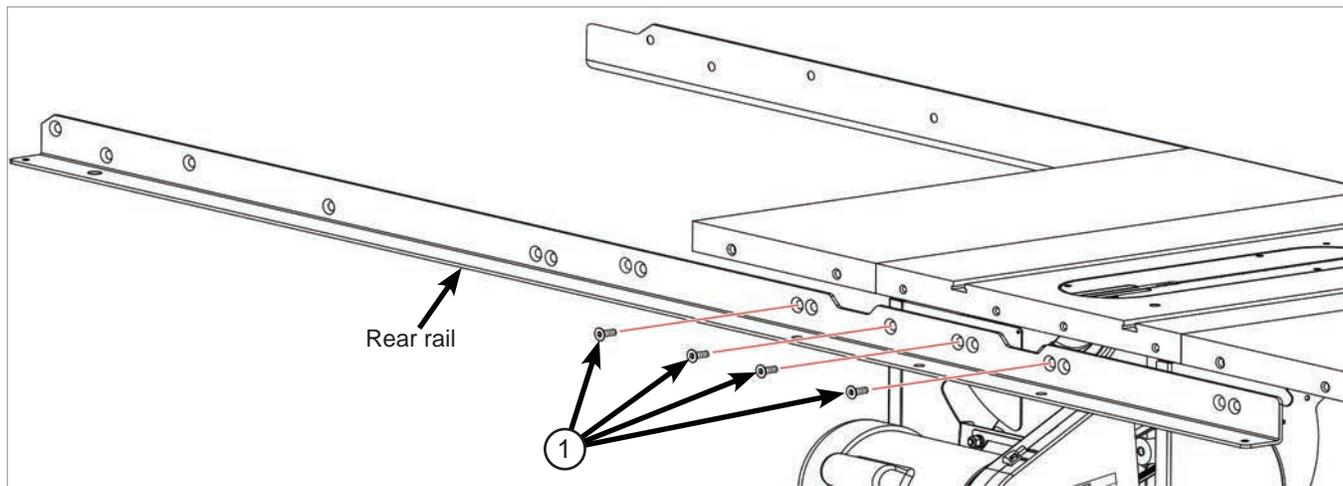

Fig. 12
4. Begin mounting the rear rail (the shorter of the two rails) to the rear edge of your saw by centering the notches in the rail with the two miter slots in the table and aligning the left-most hole between the notches with the corresponding hole in the rear edge of the table. There are three holes in the rail between the notches, one solitary hole and two holes paired together, and the left-most hole is the solitary hole. Not all the holes are used to mount the rail to your saw; different holes are used for different saws. Aligning the left-most hole aligns all the other holes used in mounting the rail to your saw. When the holes are aligned, mount the rail to the saw by threading an M8 x 16 countersunk socket head bolt into each of the four open holes in the rear edge of the table and tighten the bolts using a 5 mm hex key (See Fig. 12).